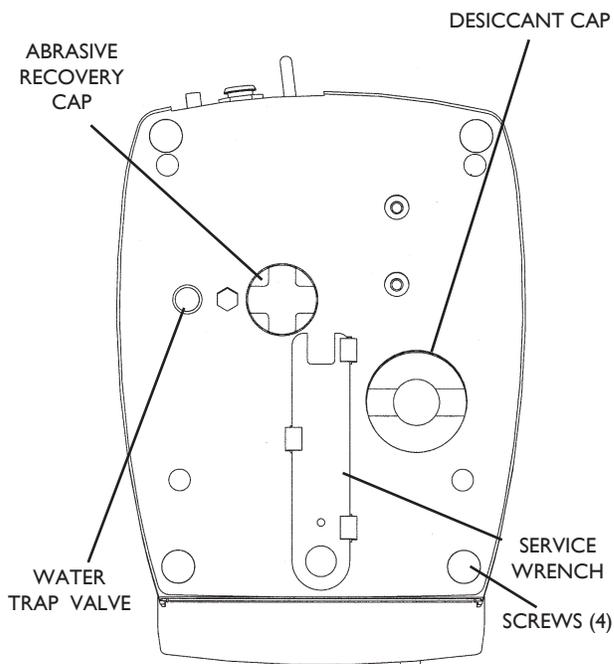
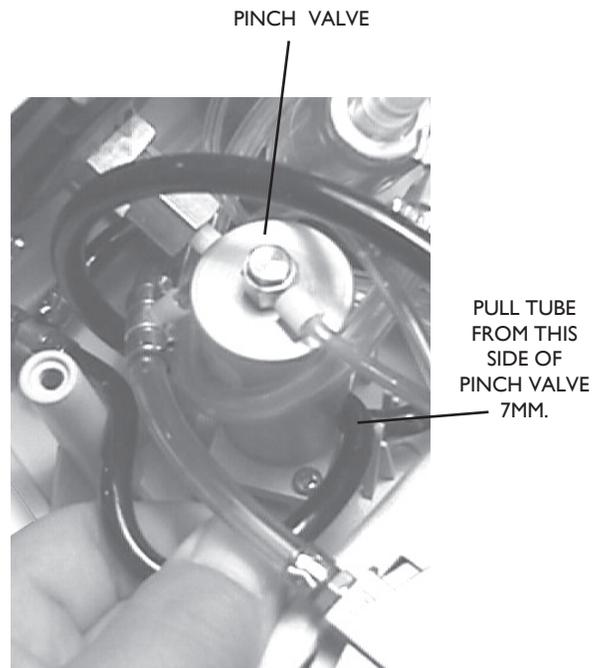

Figure 4.3
Figure 4.4
- A. Desiccant chamber:** Inspect the desiccant granules through the view window located in the bottom of the unit (see Fig. 4.3). The orange indicator granules will turn green when contaminated. Replace with new desiccant if necessary. Use the Service Wrench to unscrew and to replace the cap. Clean 'o' ring and threads before replacing. Do not over tighten.
- C. Waste Powder Chamber:** Unscrew the Abrasive Recovery Cap (see Fig. 4.3) using the Service Wrench. Remove any abrasive from the chamber, clean the threads and replace the cap. Do not over tighten.
- D. Moisture trap:** Very minimal, or no moisture should be found. While the PrepStart is pressurized and held in a horizontal position, depress the trap stem (see Fig. 4.3) with a finger tip: compressed air, and any moisture will be expelled. If more than a few drops of moisture are found, additional water traps and filtration, may be necessary.
3. Remove the four Philips head screws in the underside of the PrepStart (see Fig. 4.3).
5. The pinch valve is an aluminum cylinder near the outlet port (see Fig. 4.4). Two black plastic tubes passing through (see Fig. 4.3) the cylinder are the pinch tubes. The pinch spot is renewed by pulling both tubes with pliers, about 7mm toward the rear of unit.